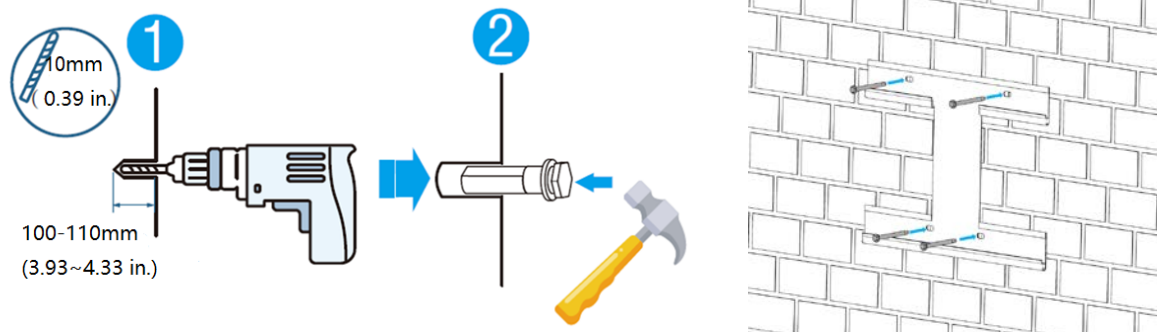

Figure 5-1
b) Choose the recommended drill head (as shown in Figure 5-1) to drill 4 holes on the wall, 100mm-110mm deep.
c) Use a proper hammer to fix the hanging plate to the wall, fit the expansion bolt (M6*100) into the holes, as shown in Figure 5-1.